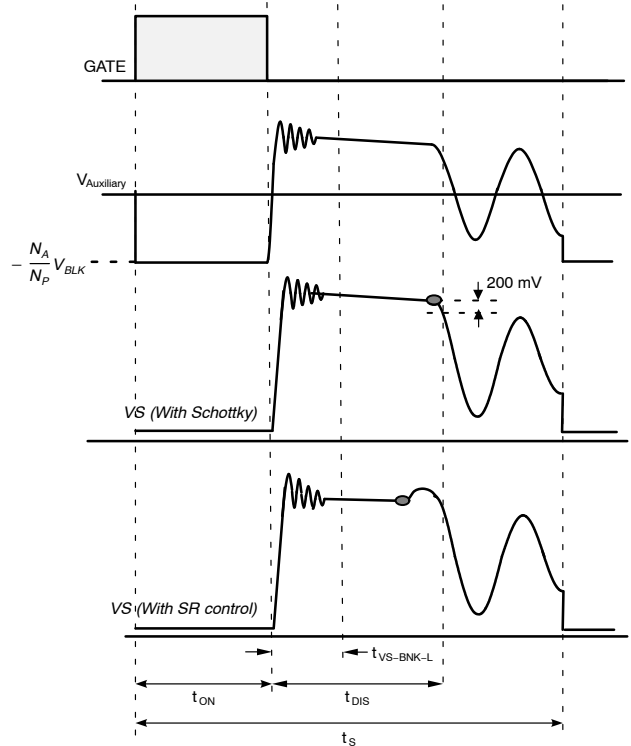

Figure 26. VS sampling with Diode or Synchronous Rectifier
VS voltage which is reflected auxiliary winding and proportional to output voltage. Therefore, It is possible to regulate output voltage by sensing VS voltage. Figure 26 shown VS sampling waveform with secondary rectifier that using Schottky diode or Synchronous Rectifier (SR).
In order to regulate output voltage in accurately range, FAN105A build-in VS sampling methodology for signal like Figure 26 showed, FAN105A samples and hold VS voltage as EAV at timing like gray point showed. Base on EAV level to regulate Pulse width to achieve estimation output voltage.
A leading edge blanking time ($t_{VS-BNK-H/L}$) start from primary switch turned off, that is caused by the resonance of leakage inductance and parasitic capacitance at transformer. In order to avoid VS sampling procedure get impacted by that ringing, the oscillation should be settle before settle down before $t_{VS-BNK-L}$ ended as Figure 26 showed. t_{DIS} is secondary rectifier current discharging time which recommend better design is longer than $t_{VS-BNK-H}$ during minimum on time controlling. t_{DIS} is predictable by following formula: